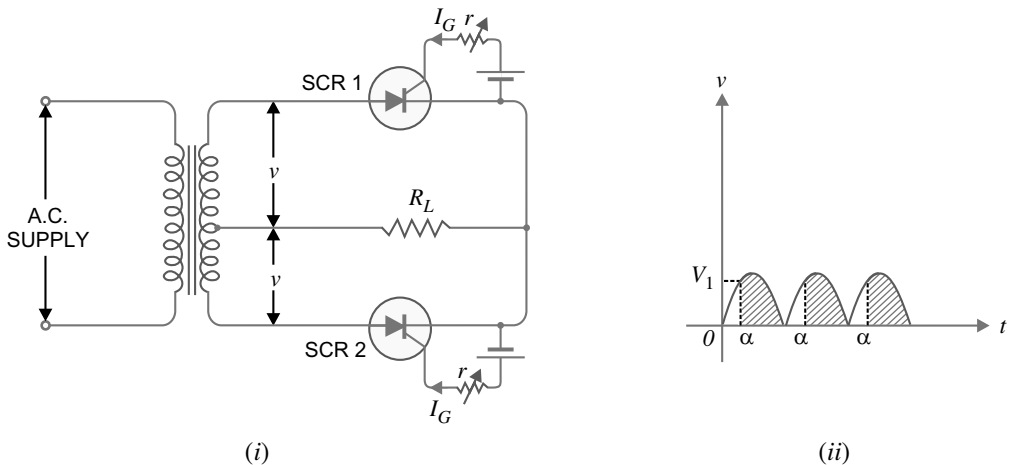

Fig. 18.18
**Operation.** The angle of conduction can be changed by adjusting the gate currents. Suppose the gate currents are so adjusted that *SCRs* conduct as the secondary voltage (across half winding) becomes  $V_1$ . During the positive half-cycle of a.c. across secondary, the upper end of secondary is positive and the lower end negative. This will cause *SCR1* to conduct. However, the conduction will start only when the voltage across the upper half of secondary becomes  $V_1$  as shown in Fig. 18.18 (ii). In this way, only shaded portion of positive half-cycle will pass through the load.
**Mathematical treatment.** Referring to Fig. 18.18 (i), let  $v = V_m \sin \theta$  be the alternating voltage that appears between centre tap and either end of secondary. Let  $\alpha$  be the firing angle.